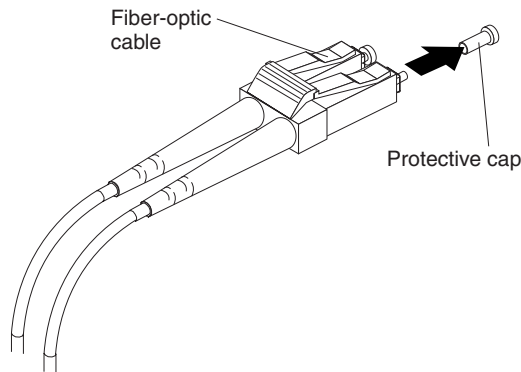

Figure 34. Removing caps from fiber-optic cables
1. Remove the protective cap from the fiber-optic cable. See Figure 34.